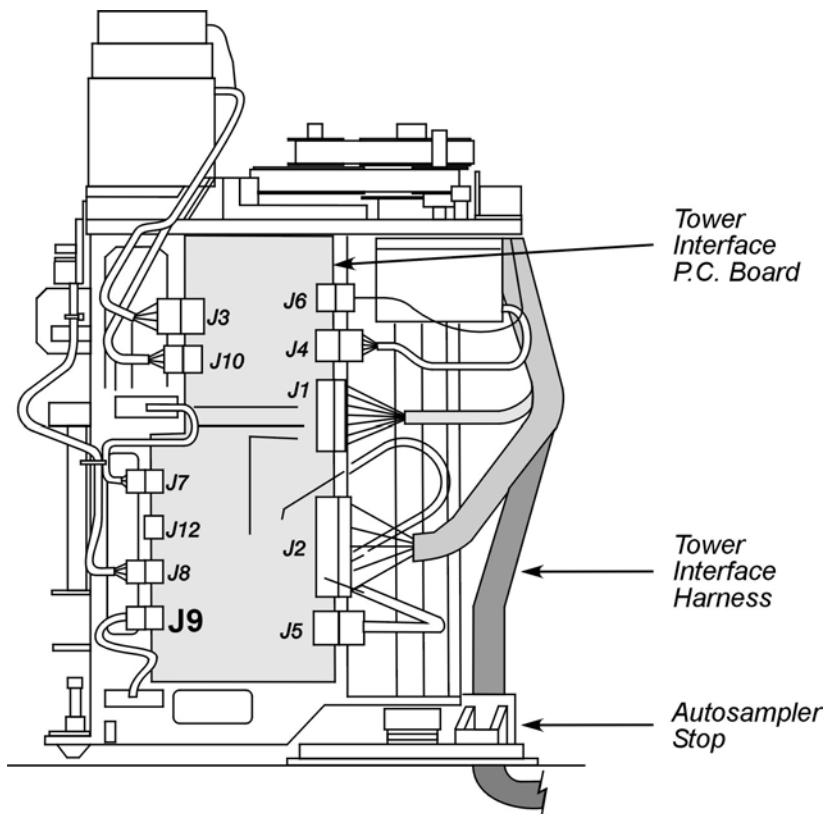

Figure 2. Connecting the tower interface harness to the tower interface p.c. board.
4. Connect the two harness connectors to the tower interface P.C. board. Plug the large connector into J2 and the small connector into J1 (see Figure 2).